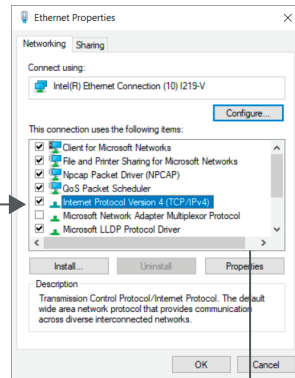

Fig. 7
3. On the properties screen, select **Internet Protocol Version 4 (TCP/IPv4)** and click on Properties (Fig. 7).